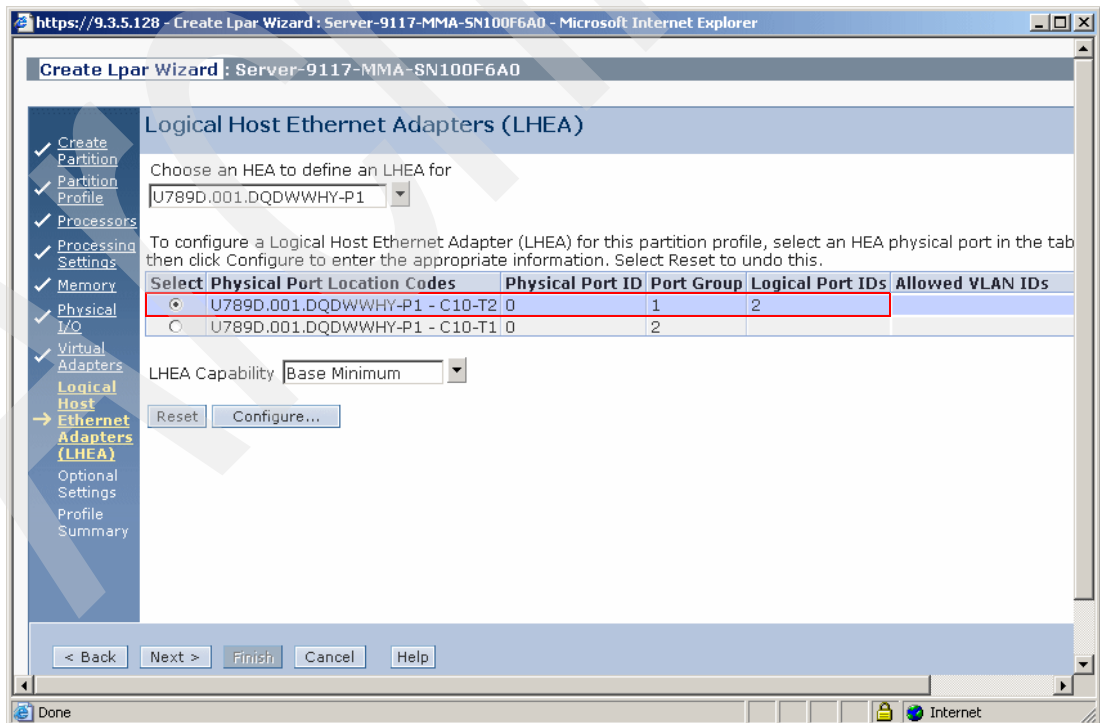

Figure 4-6 Show the new LHEA created on the HEA physical port
- ▶ Verification in the Create Lpar Wizard window, as shown in Figure 4-6.